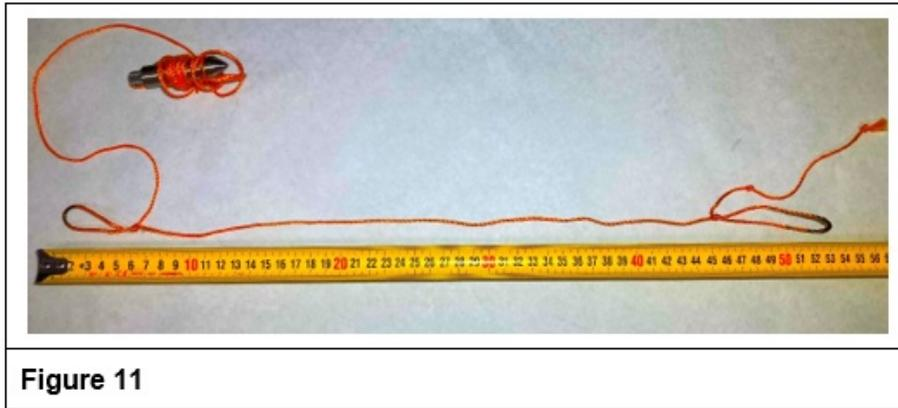

Figure 11
14. If not already completed per the special tool instructions, make two overhand loops in one of the Plumb Bob strings as shown in Figure 11. The overall length from loop to loop when stretched taut should be approximately 54cm.